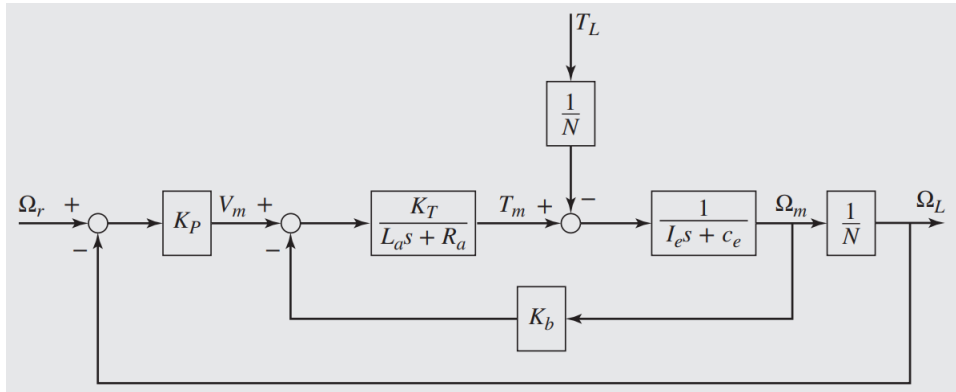

Figure 2
- Draw the block diagram of a system using proportional control, similar to that shown in Figure 2 except that the command and the output are angular positions. Assume that the motor is armature-controlled and that its armature time constant is negligible. Let the inertia